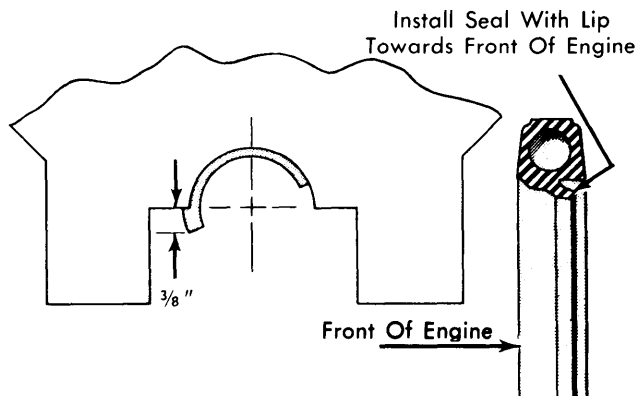

Fig. 11 Split Lip-Type Rear Main Bearing Seal
2) Remove oil seal retaining pin from bearing cap (if equipped). Discard pin. Dip seal halves in engine oil. Install upper seal in groove with undercut side of seal toward front of engine by rotating it on seal journal until $\frac{3}{8}$ " protrudes below parting surface (see fig. 11). Tighten main bearing cap bolts.